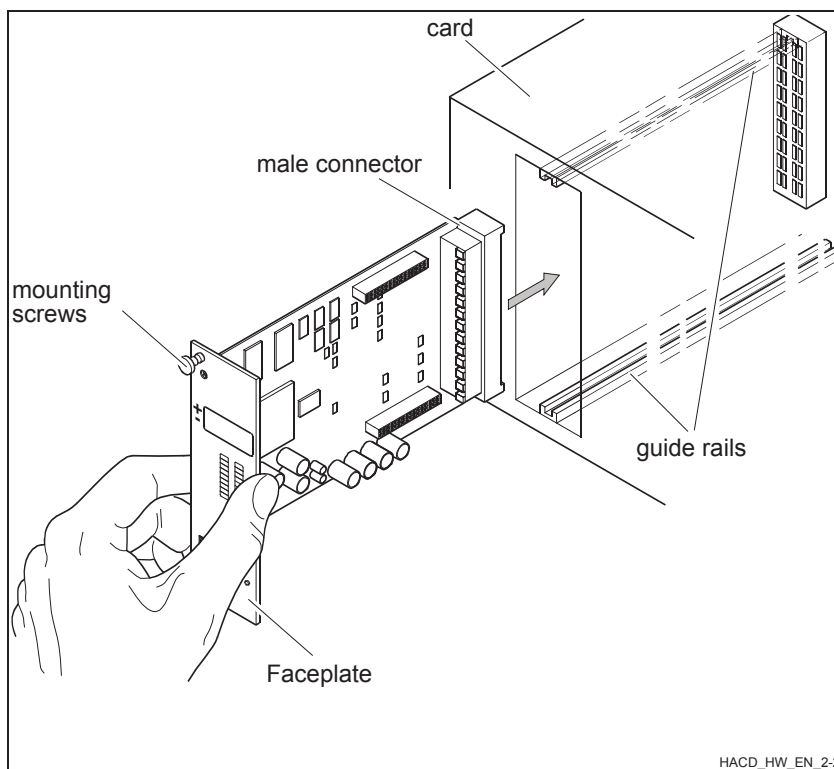

Fig. 2 Installing the controller card
Do not touch any electrical components when placing the controller card in its proper card holder as shown in Fig. 2..
- Slide the card into the guide rails of the rack without using excessive force, as shown in Fig. 2 “Installing the control card”.